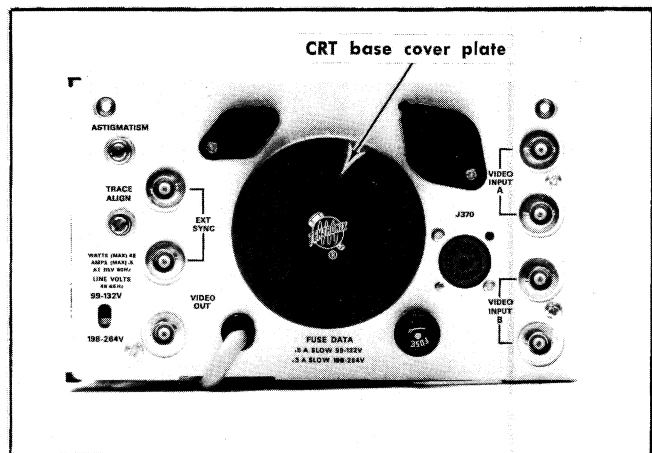

Fig. 4-9. Rear of instrument showing CRT base cover plate.
5. Remove the CRT base cover from the rear of the instrument as shown in Fig. 4-9.